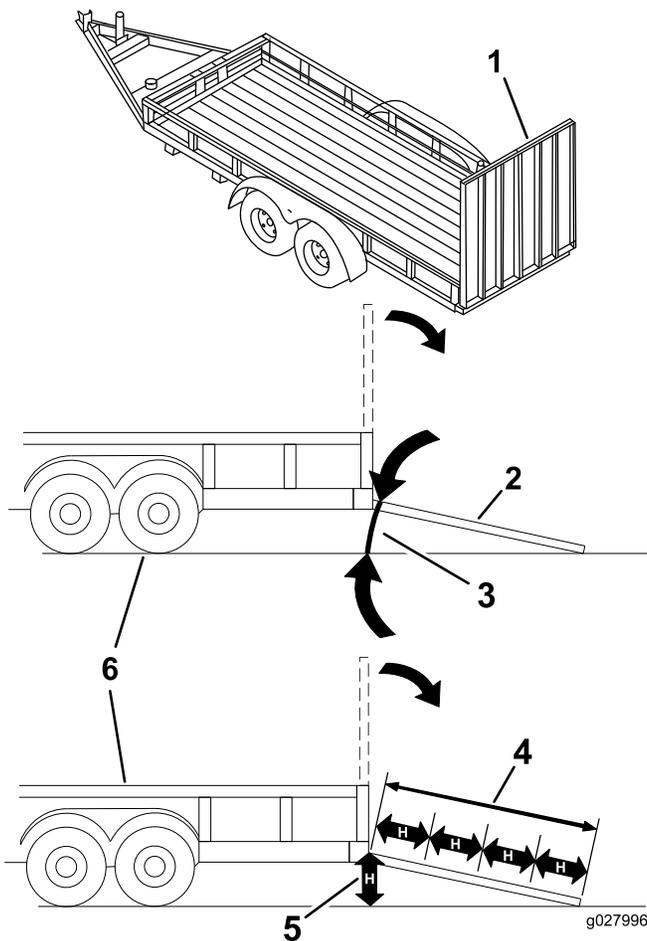

Figure 27
Loading a machine onto a trailer or truck increases the possibility of tip-over and could cause serious injury or death (Figure 27).
3. Lower the ramp, ensuring that the angle between the ramp and the ground does not exceed 12 degrees (Figure 27).
1. Lower the ramp, ensuring that the angle between the ramp and the ground does not exceed 12 degrees (Figure 27).